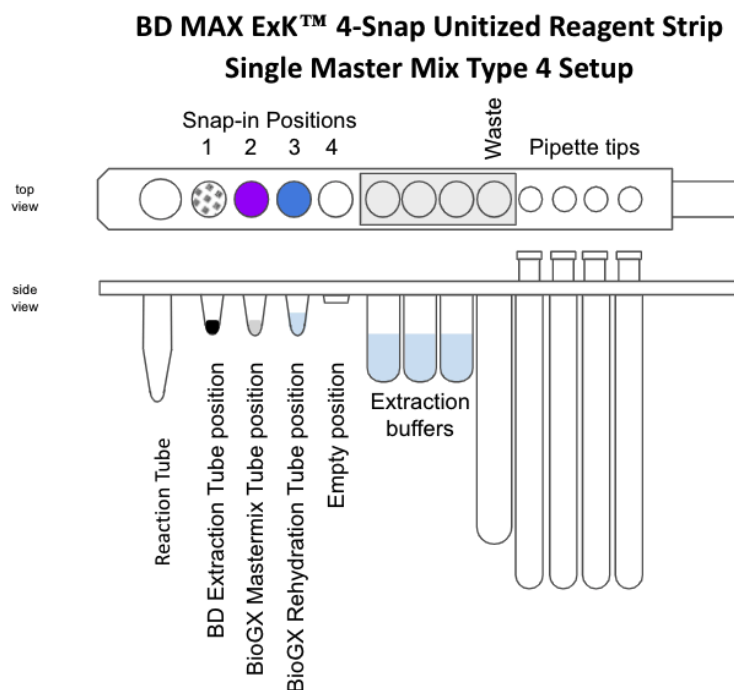

Figure 1 – Diagram of BD MAX™ ExK™ 4-snap Unitized Reagent Strips
4. Snap one BD MAX™ ExK™ DNA-1 Extraction Tube into position 1 (Snap-1) of each Unitized Reagent Strip (Figure 1).